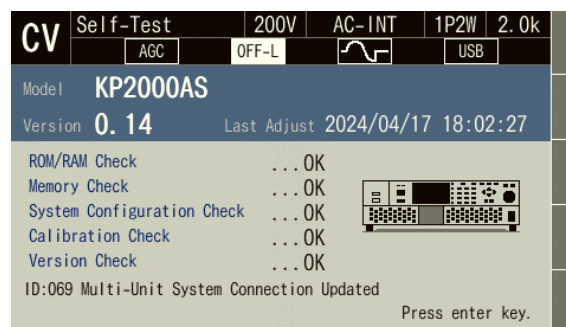

Figure 3-4 Self-Test Screen when Started in a Different System than Before
2. The self check is performed and the result is displayed. If there was a problem with the result or if the boost-up connection has changed, the startup process halts at the Self-Test screen shown in *Figure 3-4*. Check the self check result and press the ENTER key to resume the startup process.